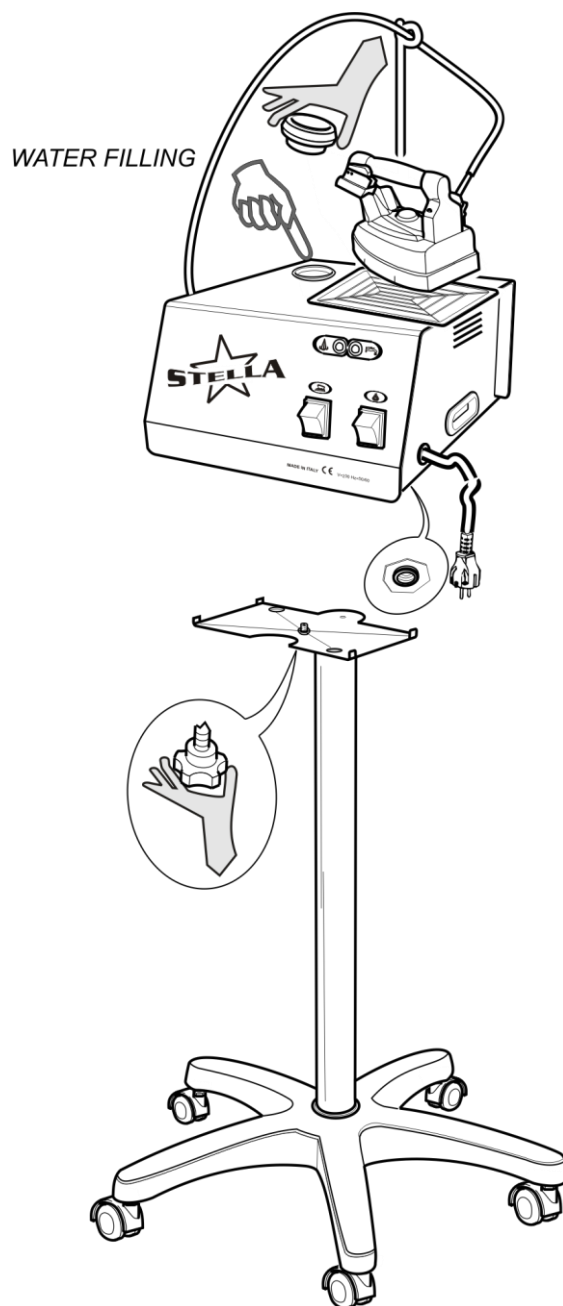

Fig. 2
5. For STELLA supplied with trolley: screw the trolley knob onto the proper connection under the base of STELLA (fig. 2).
1. Remove the water filling plug of STELLA (fig. 2) and fill the tank with water (roughly 1 liter). It is advisable to use a funnel. Once this has been done, replace the water filling plug (see section 8).
It is possible to fill the STELLA at any time during the ironing even when it is under pressure. Disconnect the plug, lift the water plug and fill the tank with water up to the desired level, paying attention not to overfill it (fig. 2).